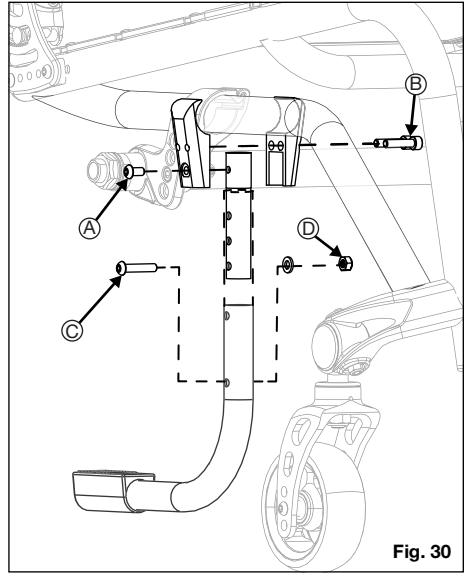

Fig. 30
How to Install the Step Tube (Fig. 30)
1. Screw step tube receiver into outside clamp using a 4 mm Allen wrench (Fig. 30:A)
2. Secure clamp to the lower frame tube on the user's desired side using a 5 mm Allen wrench (Fig. 30:B).
height using a 4 mm Allen wrench and a 10 mm wrench (Fig. 30:C/D).